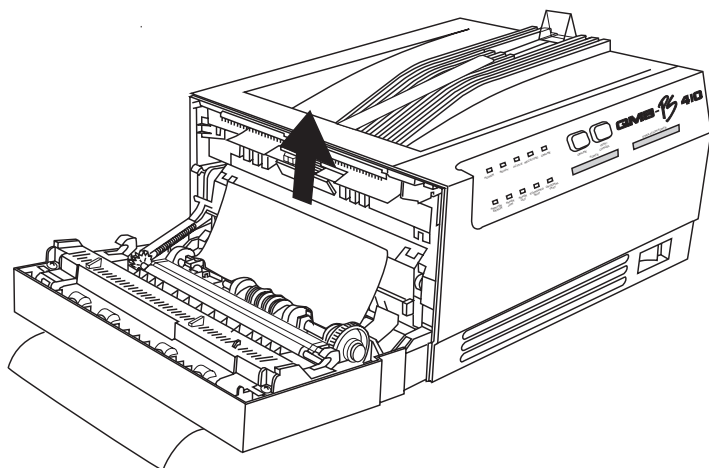

Fig. 7.3 *Remove Paper from Paper Feed Area*
3. If you are printing from the standard tray, first check the paper feed area. If there is a jam, remove the paper by pulling it in the direction of the arrow (fig. 7.3).